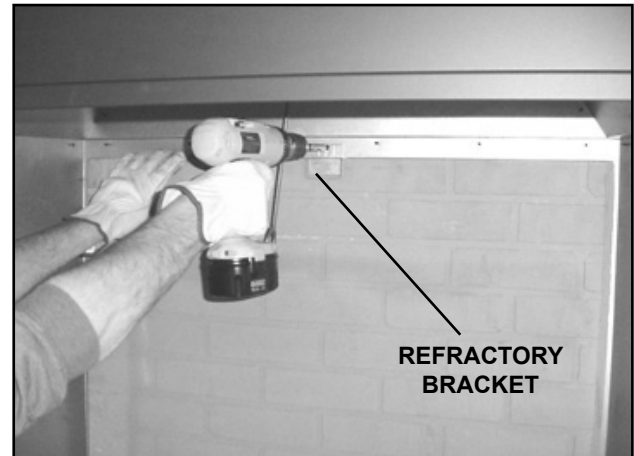

Figure 4.14 Attaching Back Refractory
- Secure back refractory in place with a screw and bracket supplied in hardware package. See Figure 4.14.